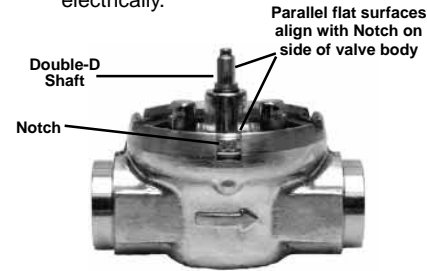

Fig. 4 - Shaft Position
1. **Align the parallel flat surfaces in double-D shaft of valve body with notch in side of body (i.e. 90° to water flow.) See Fig. 4.** This makes actuator attachment easier.